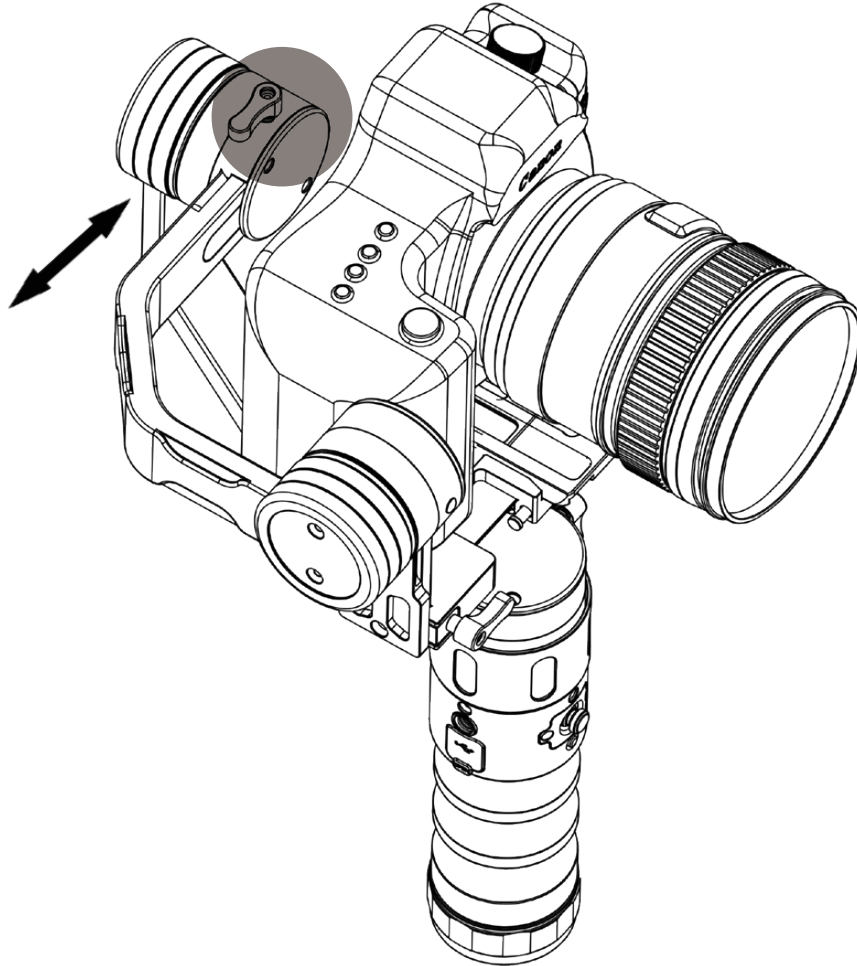

Fig. 6. Roll balance adjustment
- Release the roll thumb M4 screw (Fig. 6).